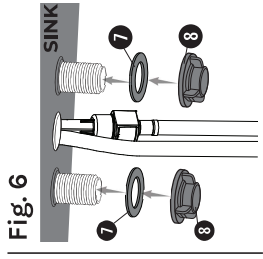

Fig. 6
3. Insert the **Large Washers** 7 and **Mounting Nuts** 8 onto the left and right hose shank on the faucet, and tighten both **Mounting Nuts** 8 (see Fig. 6).